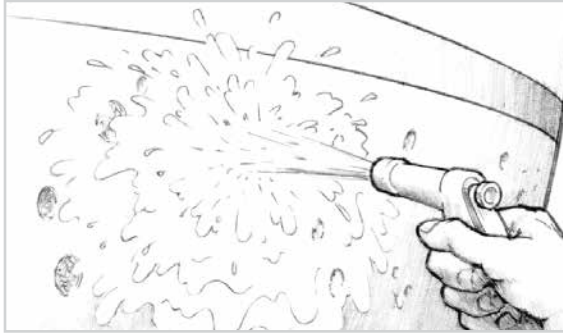

Figure 12-6 Scrub the surface with a stiff brush while flushing with fresh water to remove contaminants. Allow to dry completely
1. Pressure wash, or scrub the surface with an abrasive pad or stiff brush while flushing with fresh water to remove contaminants (Figure 12-6). The brief exposure to the fresh water won't drive up the moisture content of the laminate. Wipe dry with clean paper towels.